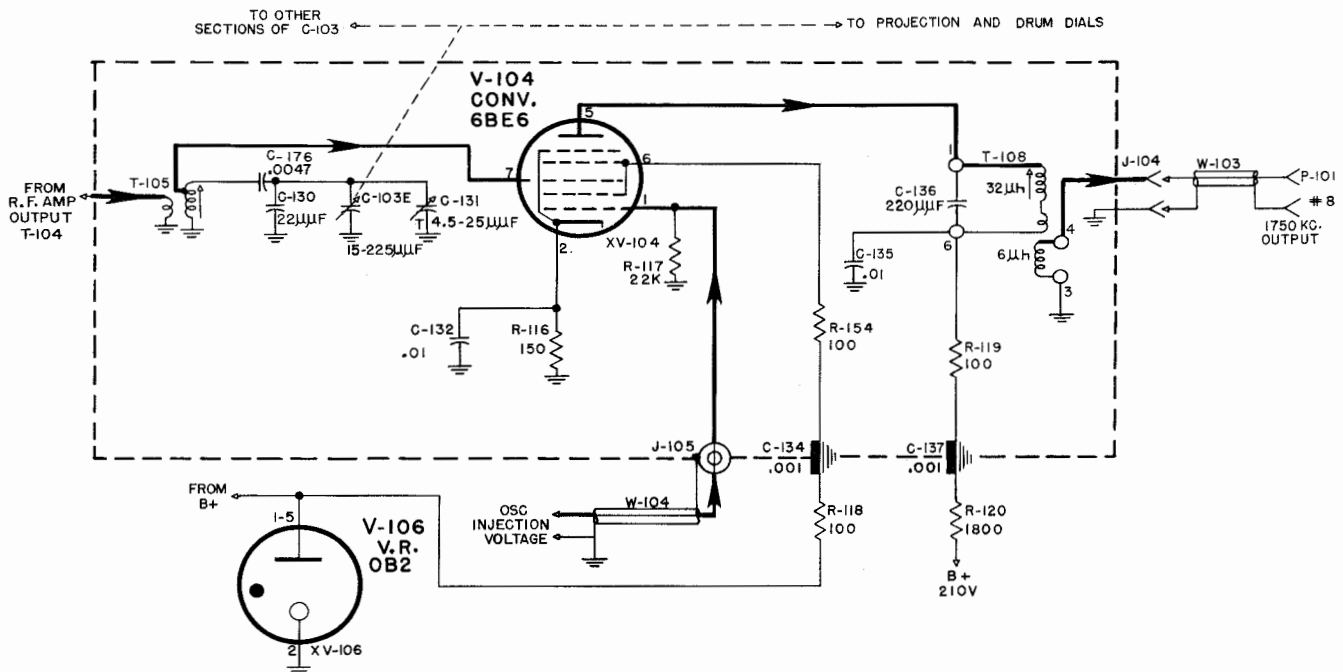

Figure 2-6. First Converter Stage, Simplified Schematic Diagram
d. FIRST CONVERTER CIRCUIT DETAILS (AM-450/FRR-24, AM-451/FRR-24, AM-453/FRR-24, AM-452/FRR-24). (See Figure 2-6).—Amplified signal voltages appearing across transformer T-104 are link coupled to transformer T-105. The converter tuned circuit is comprised of transformer T-105 and capacitor section C-103E. The iron-core tuning adjustment of T-105 and the variable trimmer capacitor C-131 provide a means of accurately aligning the tuned circuit. Capacitor C-130 is a fixed parallel padder and C-176 a series padder. Signal frequencies are connected to the signal grid of converter tube V-104, a type 6BE6, from a tap on T-105. The H.F. oscillator frequency is coupled to the injection grid of V-104 through capacitor C-150. The signal frequency and oscillator frequency are then heterodyned and the resultant difference frequency of 1750 kilocycles is obtained in the plate circuit of V-104. The output of V-104 is connected across the primary winding of transformer T-108. The output of transformer T-108 is applied to connector J-113 for application to the Frequency Converter CV-126/FRR-24 circuits. Screen potential for V-104 is obtained from voltage regulator V-106 through isolation resistors R-154 and R-118. Plate voltage is supplied through transformer T-108. Cathode bias is obtained through resistor R-116 which is bypassed by capacitor C-132.